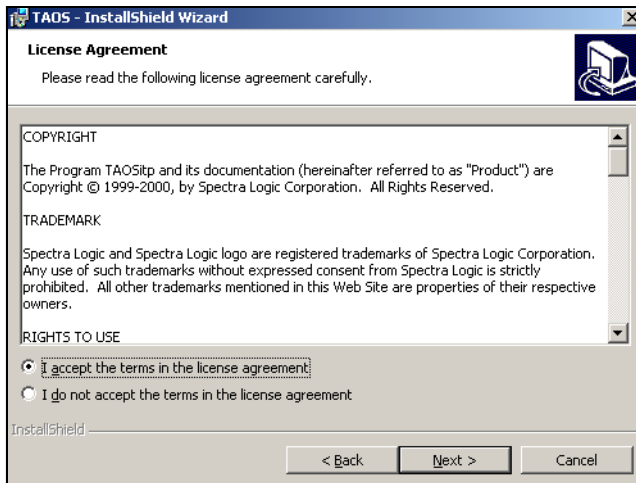

Figure 7-15 *The License Agreement window.*
5. Read the License Agreement. If you accept the terms of the agreement, check the box labeled **I accept the terms in the license agreement** and click **Next** (Figure 7-15).